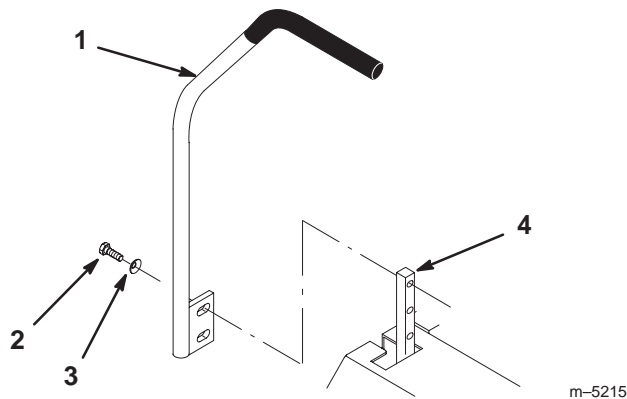

Figure 14
1. Remove the 2 screws and curved washers holding the control lever to the control arm shaft (Fig. 14).
2. Move the control lever to the next set of holes. Secure the lever with the 2 screws and curved washers. The cupped side of the washer should be toward the control arm shaft (Fig. 14).